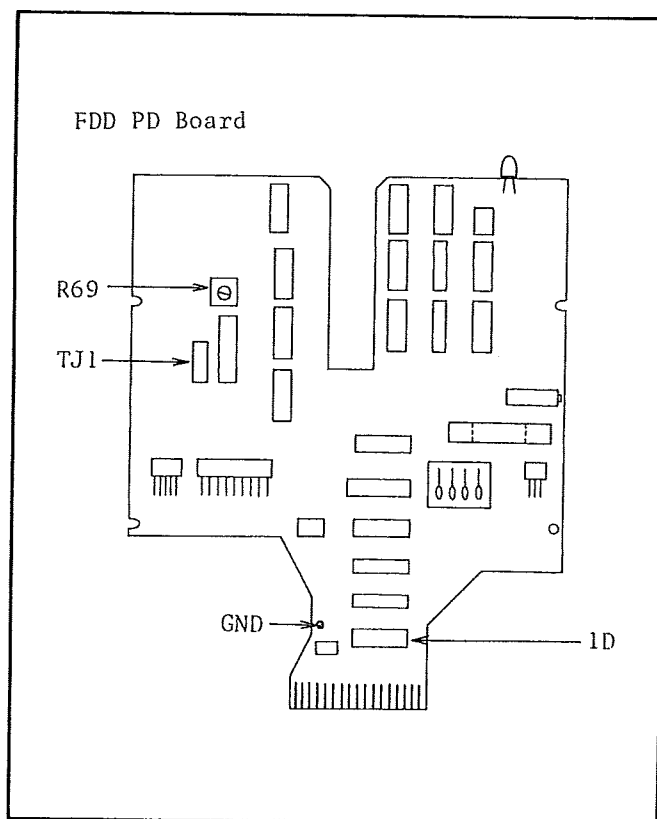

Figure 5-37. Check/Adjustment Point Locations.
1. Connect channel A input to 1D pin 8 and channel B input to TJ1 pin 7 (see Figure 5-37 for locations).
10. Adjust R69 (see Figure 5-37 for the location) until jitter is less than 300 ns.